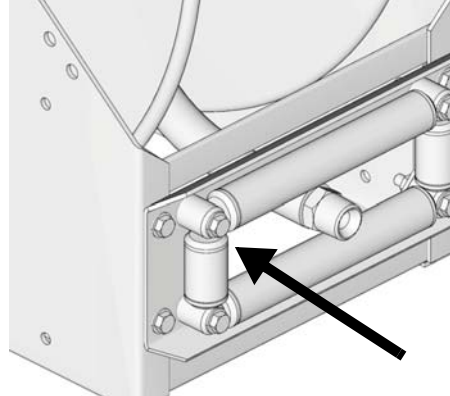

FIG. 14
- The outlet (30) will not fit through the roller guides. Pull the dispense end of the hose through the rollers as shown in FIG. 14 to remove hose from the reel.